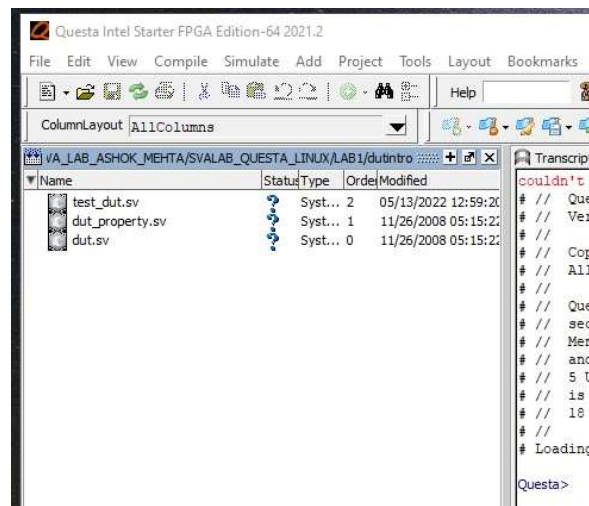
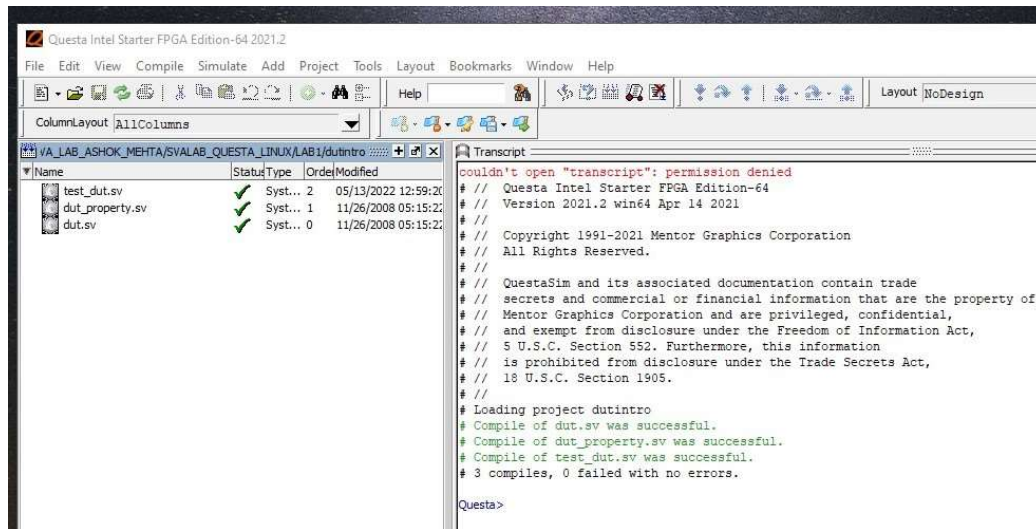

Fig. 8. Files were added to the project and are now ready to be compiled.
Fig. 9. All files have now been compiled (question marks turn to ticks).
- Once you have successfully compiled all related files (Fig. 8 and Fig. 9 in Appendix), you are ready to start the simulation. Click on **Simulate -> Start Simulation**. On the window that